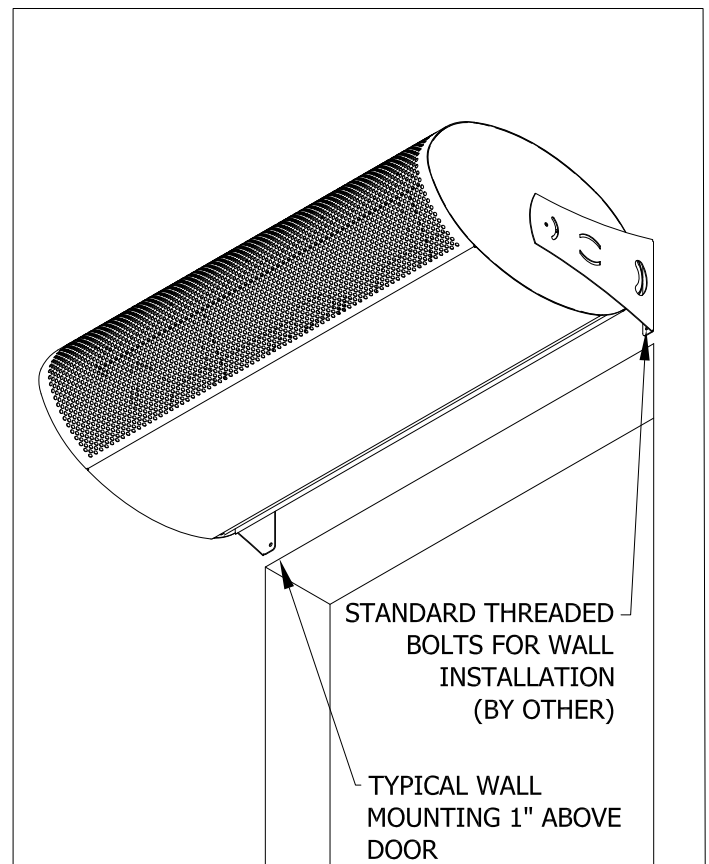

FIG. 1
4. Wall mounting brackets with (3) $\frac{1}{4}$ " mounting holes on each bracket are provided for your convenience. These holes must be utilized to secure the product to the wall or ceiling. For ceiling mount, rotate the wall mounting bracket 90° to point upwards. Threaded rods to be bolted to these $\frac{1}{4}$ " holes. All hardware is field provided by others.
5. Mount the product such that the discharge is 1" above the opening and all obstacles. (FIG. 1)
6. Use four (4) threaded rods for overhead installation or four (6) threaded bolts for wall installation. All hardware is field provided by others. (FIG. 1)